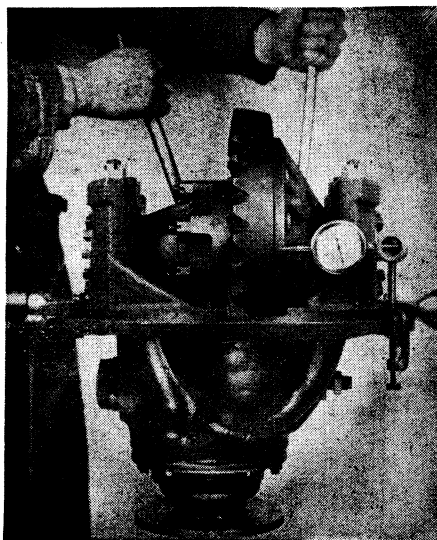

Fig. 90 Using dial indicator to establish zero end play in differential bearings
1. Using dial indicator on back face of gear, Fig. 90, loosen the bearing adjusting nut on the side opposite the gear just enough to notice end play on the indicator.